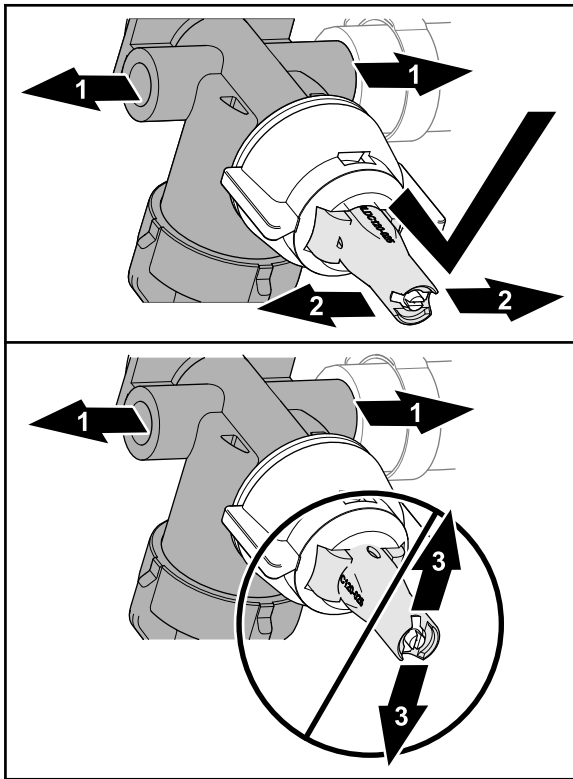

Figure 56
- Note:** Use the slot to rotate the atomizer (Figure 56) of the sprayer tip forward (in-line with the flow-regulator case of the nozzle body).